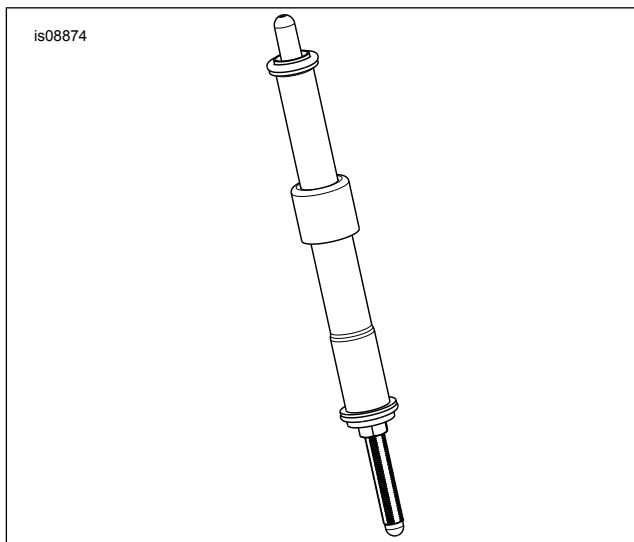

Figure 2. Pushrod Installed into Pushrod Cover
6. Refer to Figure 2. Install the intake pushrods into the pushrod covers. Replace O-rings, lower pushrod cover and spring cover keeper with new components supplied in kit. Be sure adjuster end of pushrod is down.